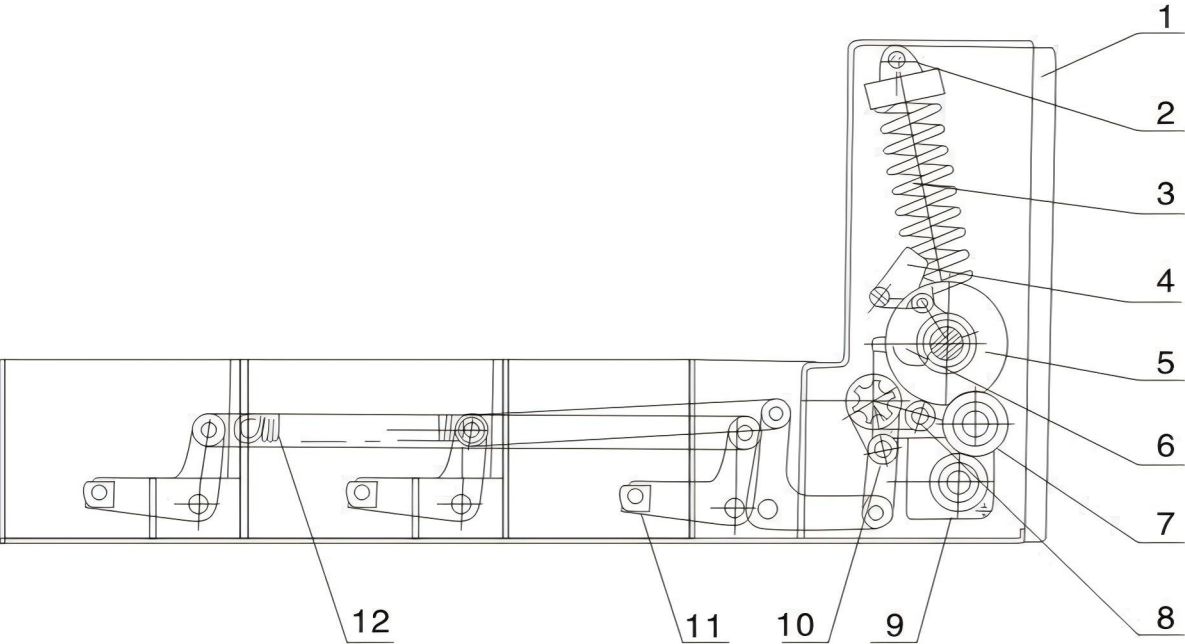

Figure 3
After the primary circuit components are installed, adjust the upper and lower nuts of the rotating block (item 11 in Figure 3) to adjust the overtravel of the circuit breaker. When the nut rotates clockwise (the nut moves downward), the overtravel will become larger; when the nut rotates counterclockwise (the nut moves upward), the overtravel will become smaller. Adjust the locking nut.
4. Structural Overview: See Figure 3